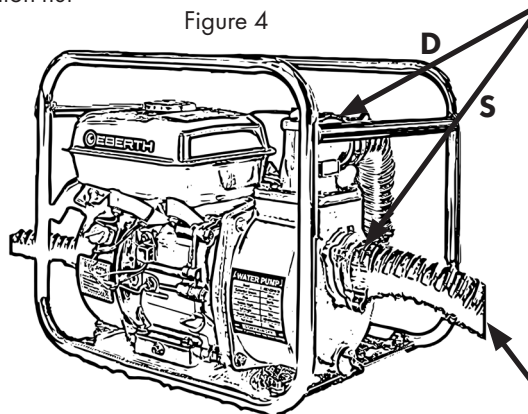

Figure 5
- Now fit the hoses to the suction line (item S) and discharge line (item D) using union nuts, Fig. 5.